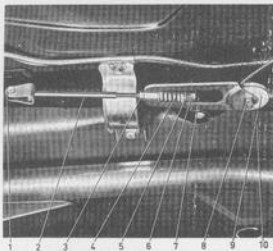

Fig. 5-80. Brake components
If the parking brake can be applied past these notches, the cable should be tensioned. This is done by loosening the locknuts and screwing in the block (7, Fig. 5-80) on the pull rod. After adjusting, tighten the locknuts. Check that there is approximately the same braking effect on both rear wheels.
3. Remove the nut (8, Fig. 5-80) and take off the pulley (9) from the block (7).
1. If new linings or drums are to be fitted, slacken the locknut (6, Fig. 5-80) to remove tension in the cable.